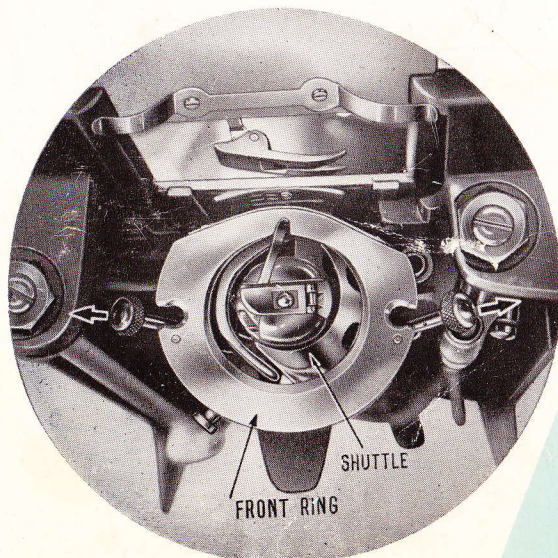
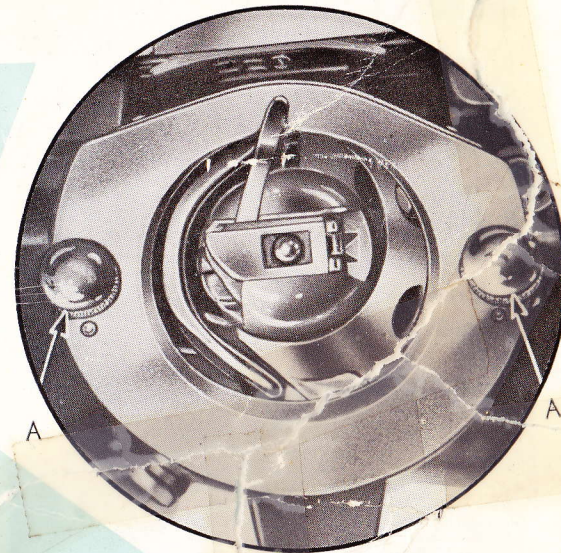

Fig. 10
Fig. 9
2. Release the KNOBS (A) at both sides of shuttle race (Fig. 9) by pulling them sideways; then take out the front ring and the shuttle with your fingers. (Fig. 10)
4. Snap knobs into place as seen in Fig. 9.